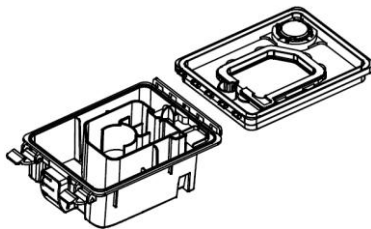

Fig. 5-5
(2) Cleaning the Water Chamber: Wash the two parts of the water chamber, as shown in Fig. 5-5. You may also clean them with a scouring pad (dip the scouring pad in washing liquid if necessary), rinse them thoroughly, and then wipe them dry with a soft cloth.